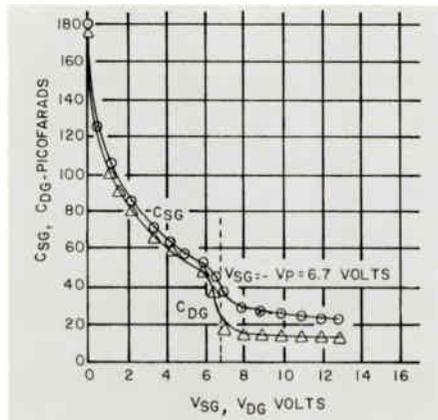

Figure 7. Variation of Source-to-Gate and Drain-to-Gate capacitance with voltage.
2. The FET has input capacitance that varies inversely with V_{GS} (bias). See Figure 7.